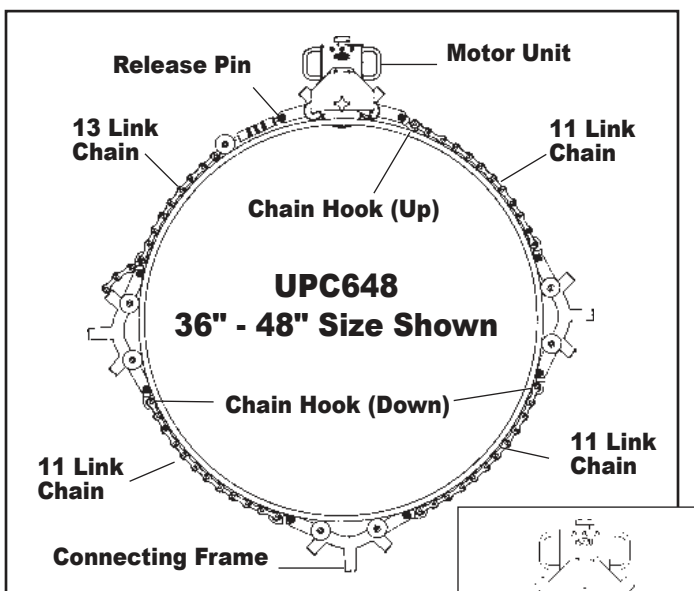

FIG. 5
3. Connect 13 link chain and turnbuckle assembly to motor unit with release pin. Extend turnbuckle to outermost position. (Fig. 5)
6. If cutting pipe where connecting frames and 11 link chains are needed, (UPC636 & UPC648) pre-assemble chain hooks to the aluminum connecting frames, with the chain hooks in the downward position. Return to Step 5, being sure to space the connecting frames equi-distant to the motor unit. (Fig. 5)